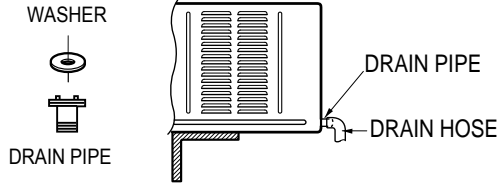

Fig. 3
- 3) Connect a drain hose of 9/16 inside diameter to the drain pipe as shown Fig. 3